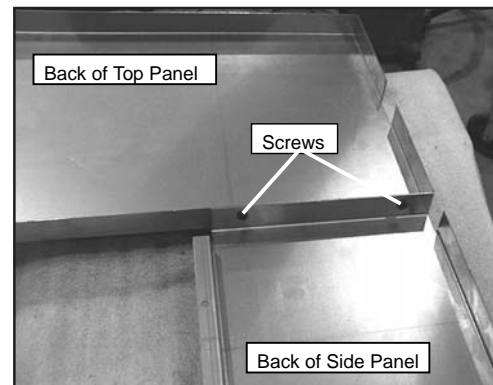

Figure 21.3
10. Plug cord into inlet on junction box routing the wire as shown in **Figure 21.3 on page 21.**